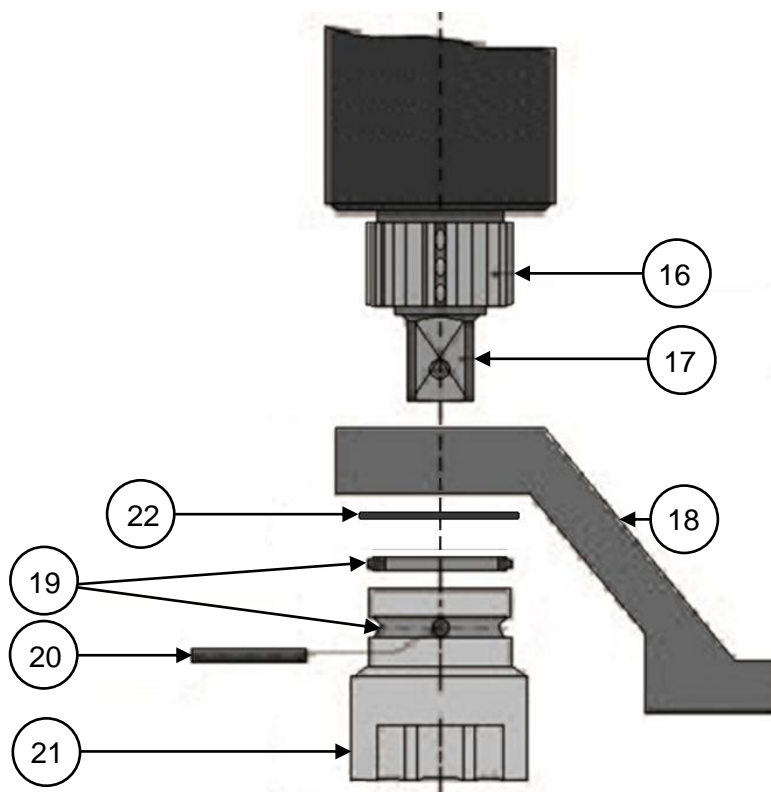

Fig 7.1 - Pistol grip, pneumatic torque multiplier set up.
### 7.4 Tool Set-Up (See figure 7.1)
Put the support arm (18) onto the spline (16) of the wrench. Secure the support arm in place using the retaining ring (22). Then put the impact socket (21) on to the square drive (17). Fix the impact socket (21) and support arm (18) with locking pin (20) and rubber collar (19), see fig. 7.1.